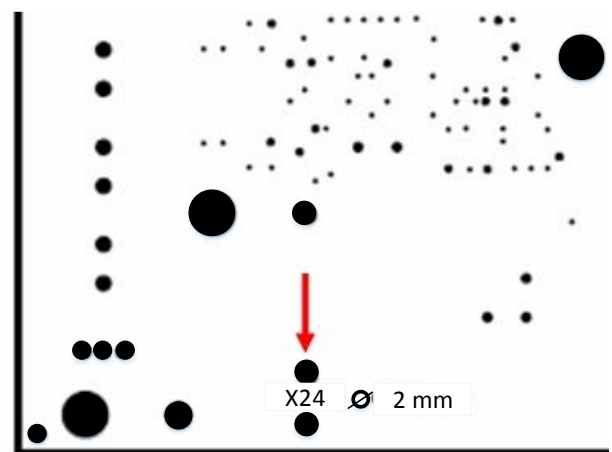

Figure 5: Position of X24
The Mounting Plate Rack WMS13 is equipped with two 6.3 mm FASTEN connectors for grounding. After delivery the 0V level is connected to the protection earth (PE). If the overall grounding concept of the whole plant makes it necessary to open this connection, it can be removed by using a 2 mm drill from the back side (lower left) of the PCB at position X24 (Figure 5).
makes it necessary to open this connection, it can be removed by using a 2 mm drill from the back side (lower left) of the PCB at position X24 (Figure 5).